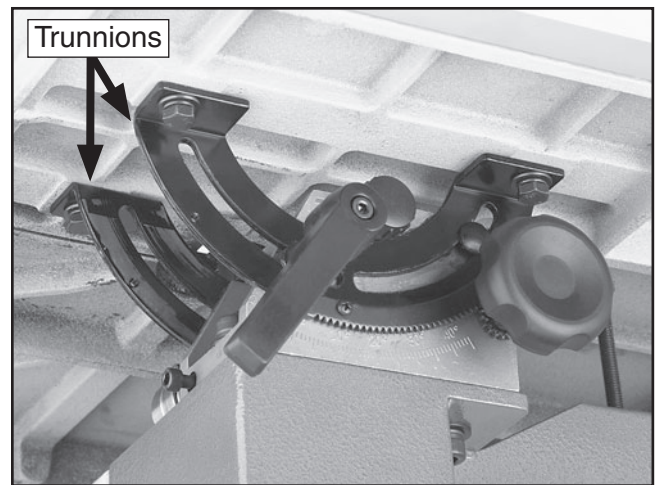

Figure 15. Mounting the table.
5. Secure the table to the trunnions as shown in **Figure 15** with the supplied hex bolts and washers.